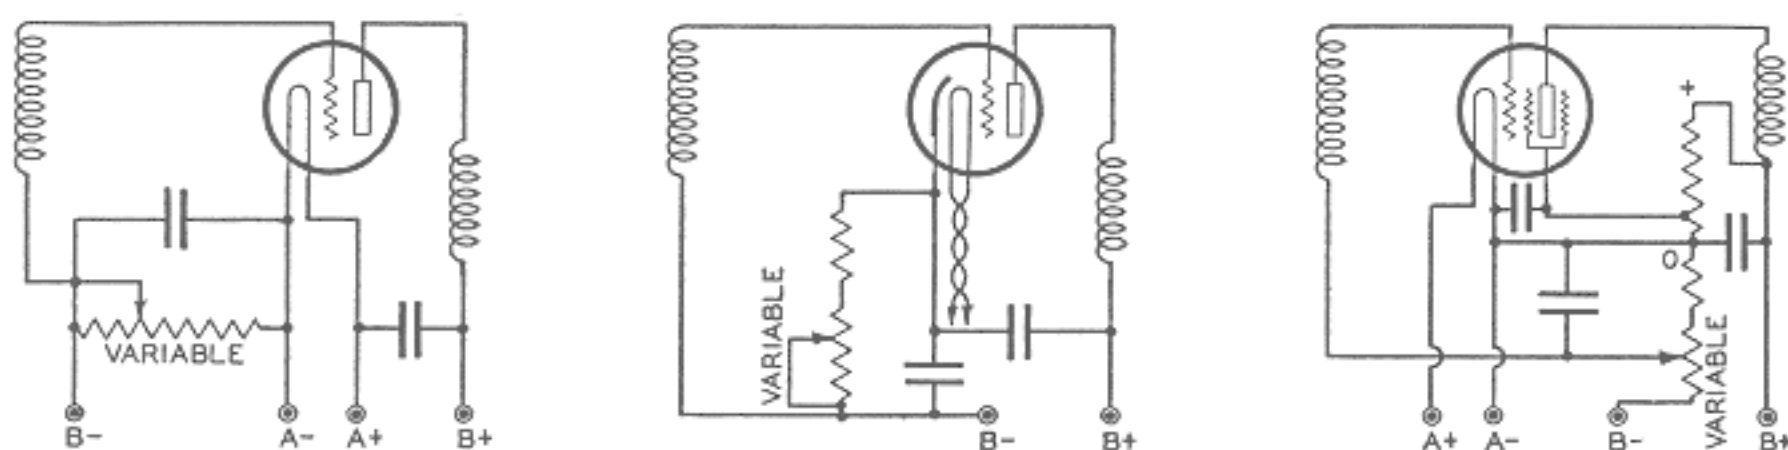

Fig. 16
*Grid voltage variation* for the r-f amplifier stages is a convenient and frequently used method for controlling receiver volume. The variable voltage supplied to the grid is obtained either from a bleeder circuit by means of a potentiometer, or by the self-bias method using a variable resistor. In either case, it is important that the control be arranged so that less than the minimum recommended grid bias voltage cannot be applied to the grid. This requirement may be met by a stop on the potentiometer or by a fixed resistance in series with the variable section. See Fig. 16.